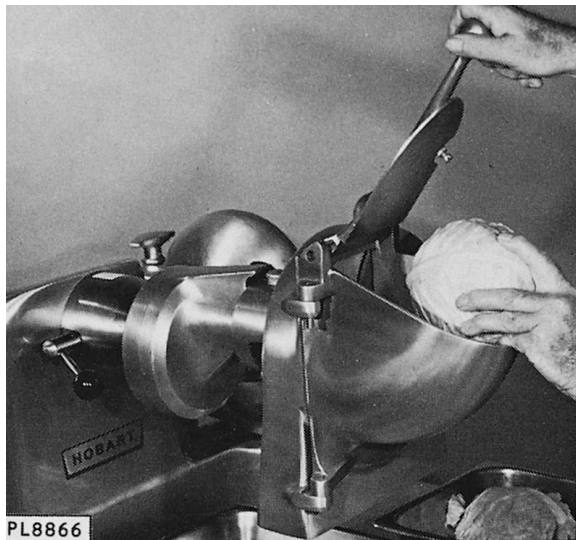
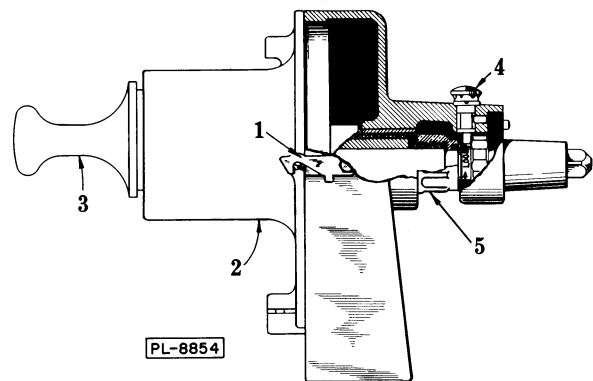
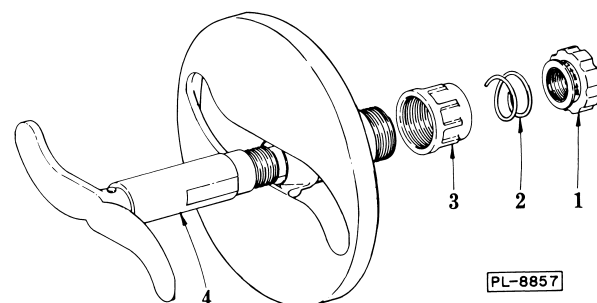

Fig. 1
Fig. 2
Fig. 5
The standard front is of the hopper and lever feed design (Fig. 1). It hinges onto the back case and is held closed with a latch (1, Fig. 2). To remove front, lift latch and swing front open, raise from hinge holes.
An optional tubular front (2, Fig. 2) is available which permits end feeding with feed stomper (3, Fig. 2). This is used when cutting at right angles to plate.
Open front, lift knob (4, Fig. 2) and slide slicer unit (Fig. 5) into operating position. Slicing thickness may be adjusted from approximately 1/16" to 5/8" by turning the adjusting nut (5, Fig. 2), without removing unit from its assembled position. The easy accessibility of this adjustment makes it possible to vary the slice thickness to suit the users preference.
OPERATION (Fig. 1):
4. Select plate and shaft assembly (such as slicer plate) to be used. Lift plunger (4, Fig. 2) and insert plate and shaft assembly into drive position. Release plunger.
3. Lift the plunger (4, Fig. 2) and withdraw the rotating unit.
5. All parts (case, front & rotating unit) may be immersed in warm soapy water for cleaning. Rinse in hot clear water and dry immediately. It is important that juices be cleaned from slicer before they can dry. When using the adjustable slicer unit, make sure it is cleaned frequently to assure easy thickness adjustment. Use a drop of tasteless oil on the adjustment threads after cleaning. Occasionally dis-assemble the slicer unit for a thorough cleaning. To do this it is necessary to unscrew the knurled thrust collar (1, Fig. 5) (which has a left hand thread). The spring (2, Fig. 5) is then free for removal. Withdraw the knife and shaft assembly (4, Fig. 5). Unscrew the adjusting nut (3, Fig. 5) from the plate.